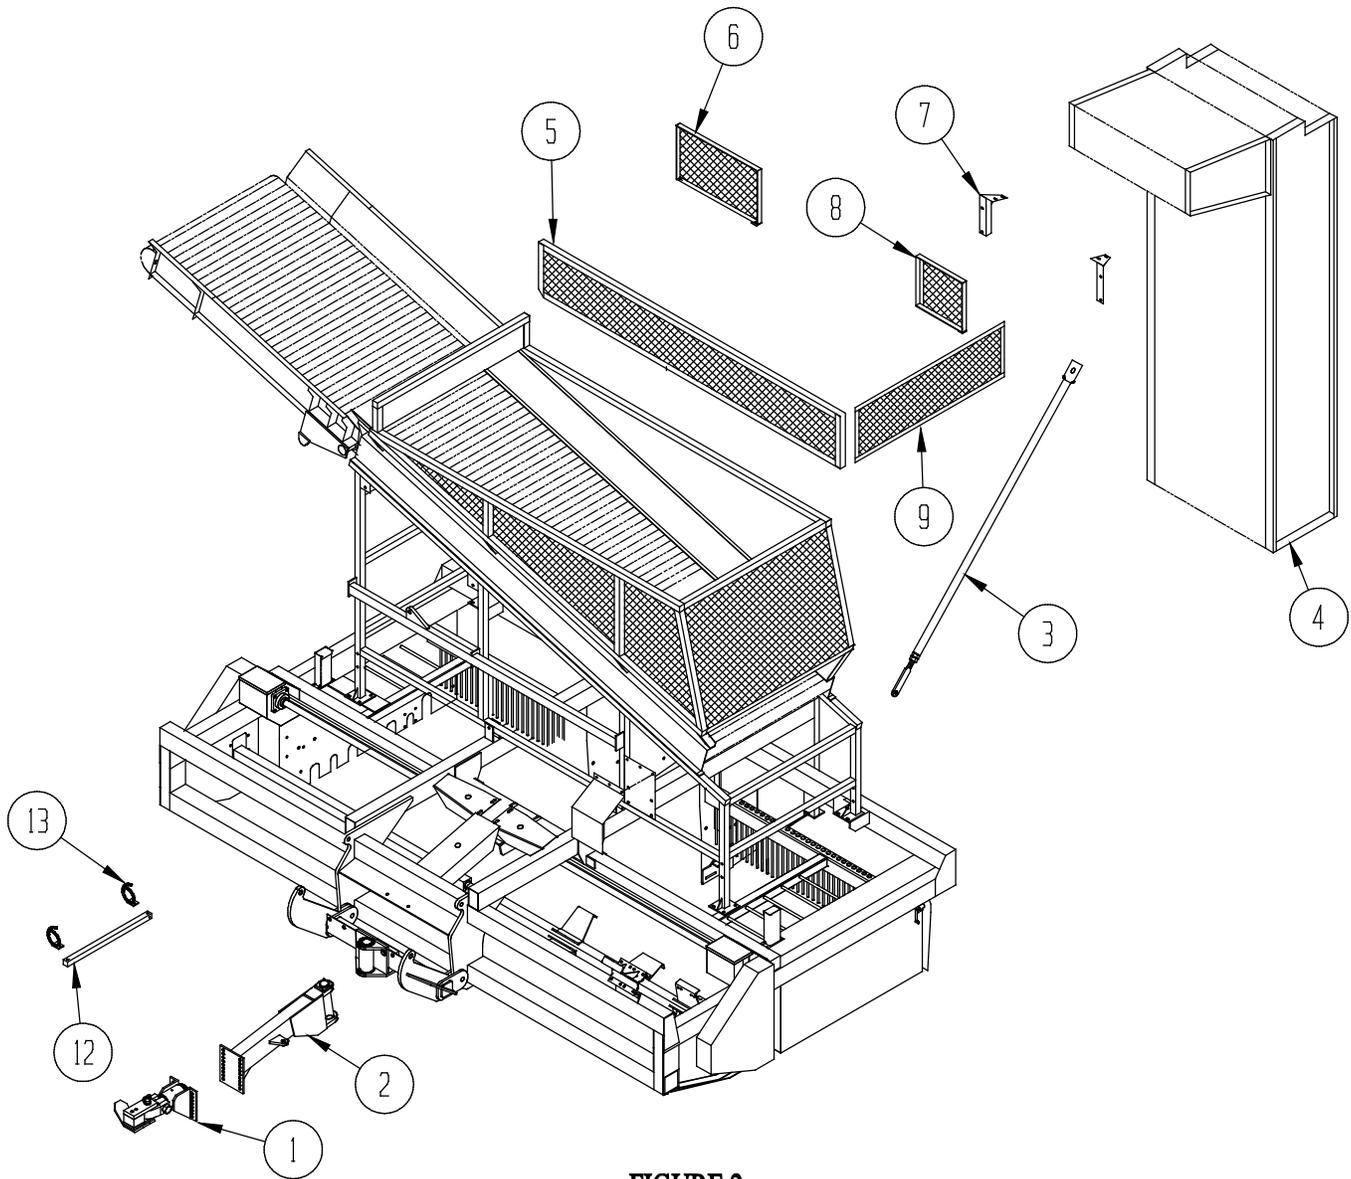

FIGURE 2
Step 5: With the use of a fork lift or other suitable means of lifting, lift the rear elevator into place and attach lower support angles (Item #5, Figure 2) to main frame using (8) 5/8 x 3 hex bolts, nuts, lock & flat washers. Do not completely tighten the nuts at this time.
Step 6: Attach the top elevator mounting brackets (Item #7, Figure 2) to the hopper and then bolt the elevator discharge panels to these brackets. Now, **after re-checking to be sure the elevator frame is still square**, tighten all bolts and nuts securely.
Step 8: Install the support rod assembly (Item #3, Figure 2.) on the right hand side of the frame using (2) 5/8 x 1³/₄ hex bolts, hex nuts and lock washers.
Step 9: Install all hopper railings (Items #5, #6, #7 & #8, Figure 2).
Step 10: Install the tongue assembly (Item #2, Figure 2) and the heavy-duty swivel hitch